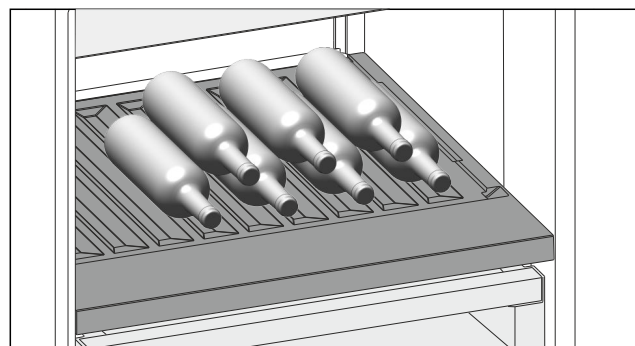

Fig. 79
- ▶ Place bottles in the back row with their bases against the back wall. (see Fig. 79)